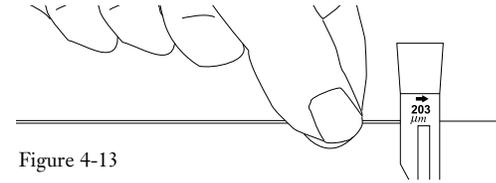

Figure 4-13
4.4-3 Remove this 40-mm section of the buffer with the 203  $\mu\text{m}$  No-Nik, tool (Figure 4-13).